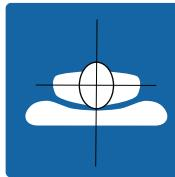

Figure 2 – Center patient
5. Center the patient on the support surface (Figure 2).